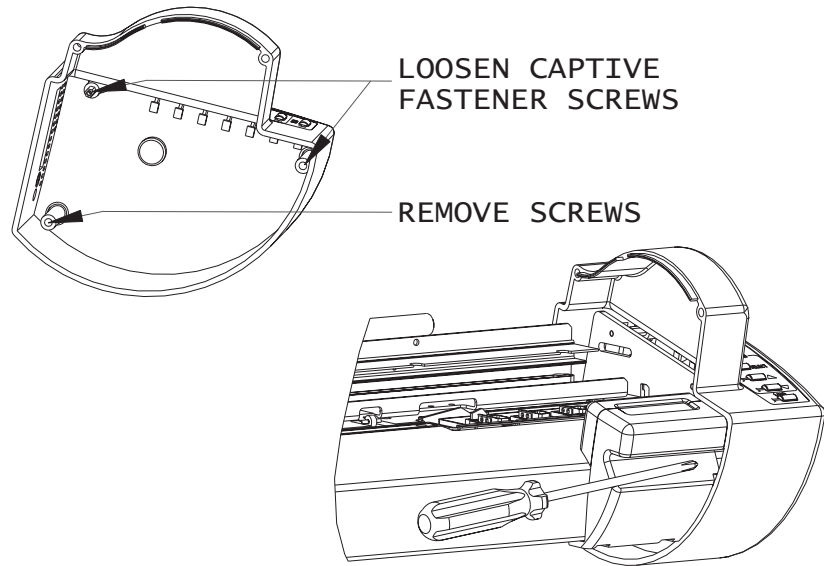

Figure 5-1. Removal of Right Cover Assembly.
4. Using a #2 Phillips screwdriver, loosen the top and front captive fastener screws and remove the bottom back screw on the inside of the Right Cover. The front captive fastener screw can be accessed by inserting the screwdriver into the groove on the Display Assembly as shown on the lower right side of Figure 5-1.
3. Reinsert all three screws on the inside of the Right Cover Assembly. See Figure 5-1. All three screws should be torqued to 15 in-lbs. **Do not overtighten.**